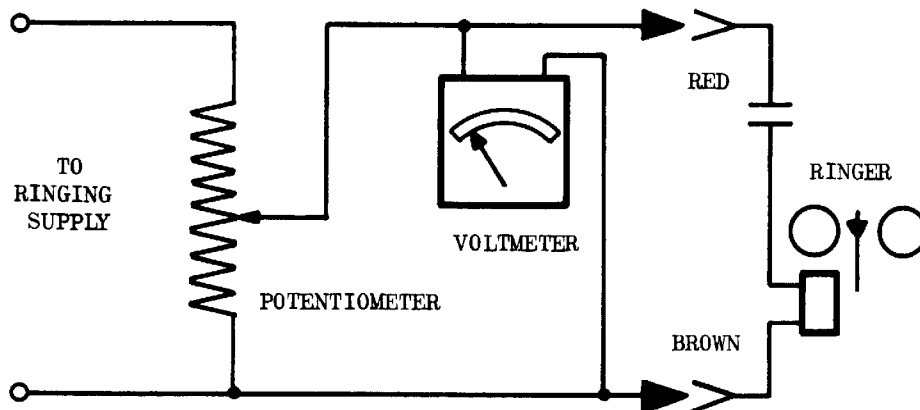

Fig. 14. Gong Adjustment
a. Adjustments, other than setting the gongs, should never be attempted on frequency selective ringers. The resonating chambers have their mounting screw holes slightly off center. Rotation produces an eccentric motion, moving the gong in and out. Connect the ringer, a-c voltmeter and potentiometer to the ringing supply as shown in the diagram (Fig. 14).
c. Loosen mounting screws and move both gongs "out" until clapper does not strike either gong. Move one gong "in" until clapper starts striking it and tighten mounting screw. Move other gong "in" until both are being struck equally and tighten mounting screw. Set potentiometer (fig. 14) to minimum ringing voltage and slowly increasing voltage (to prevent starting on surge) to make certain ringer operates at proper voltage. Repeat several times.